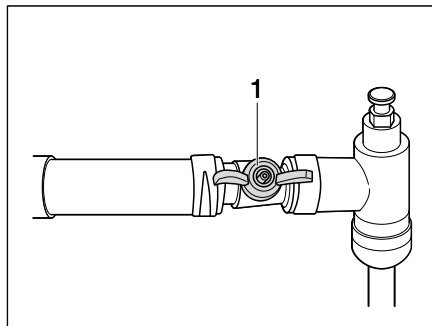

Fig. 309 Alde stopcock, opened
- Set the stopcock (Fig. 309,1) diagonally to the pipe.
- Set the stopcock (Fig. 309,1) parallel to the pipe.